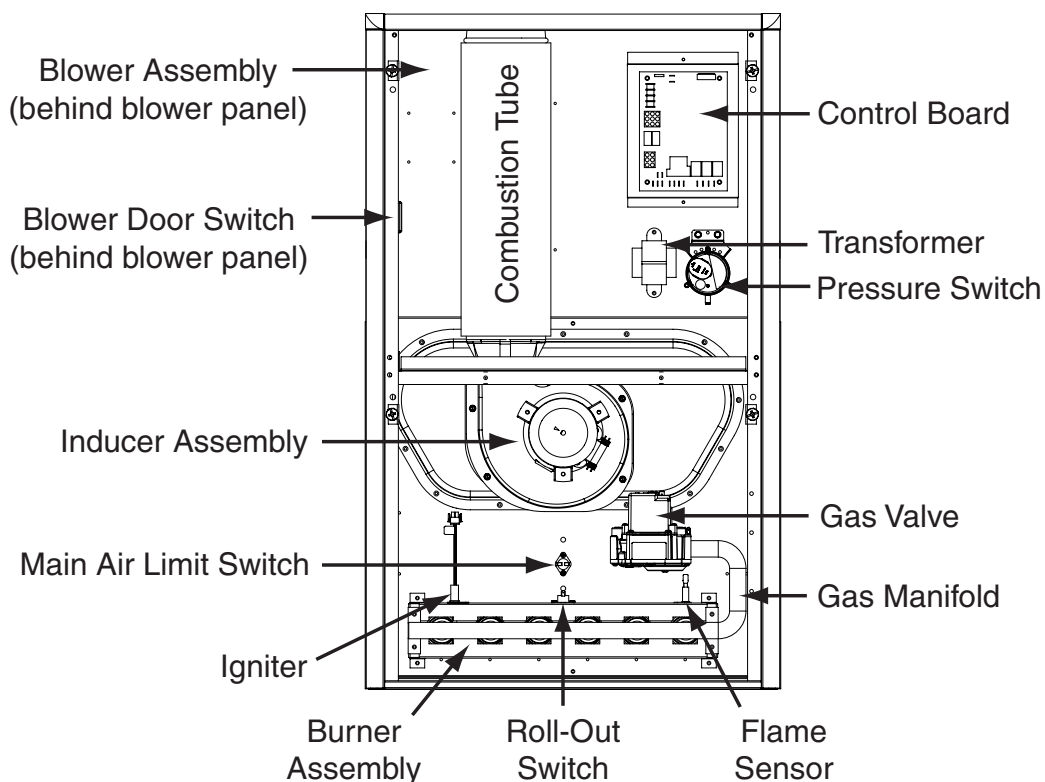

Figure 21. Component Locations
- If the inducer blower is operating and items above have been verified, check the blower limit switch and reset if necessary. See Figure 21, \(page 30\) for component location.
- If the furnace still doesn't operate, check the flame roll-out switch and reset if necessary. See Figure 21 for component location.
The descriptions below are various functional components that affect the operation and shutting down of this furnace. Some of these components and their locations are shown in Figure 21, \(page 30\). If any component of the furnace must be replaced, use only factory authorized replacement parts specified in the Replacement Parts List provided online.